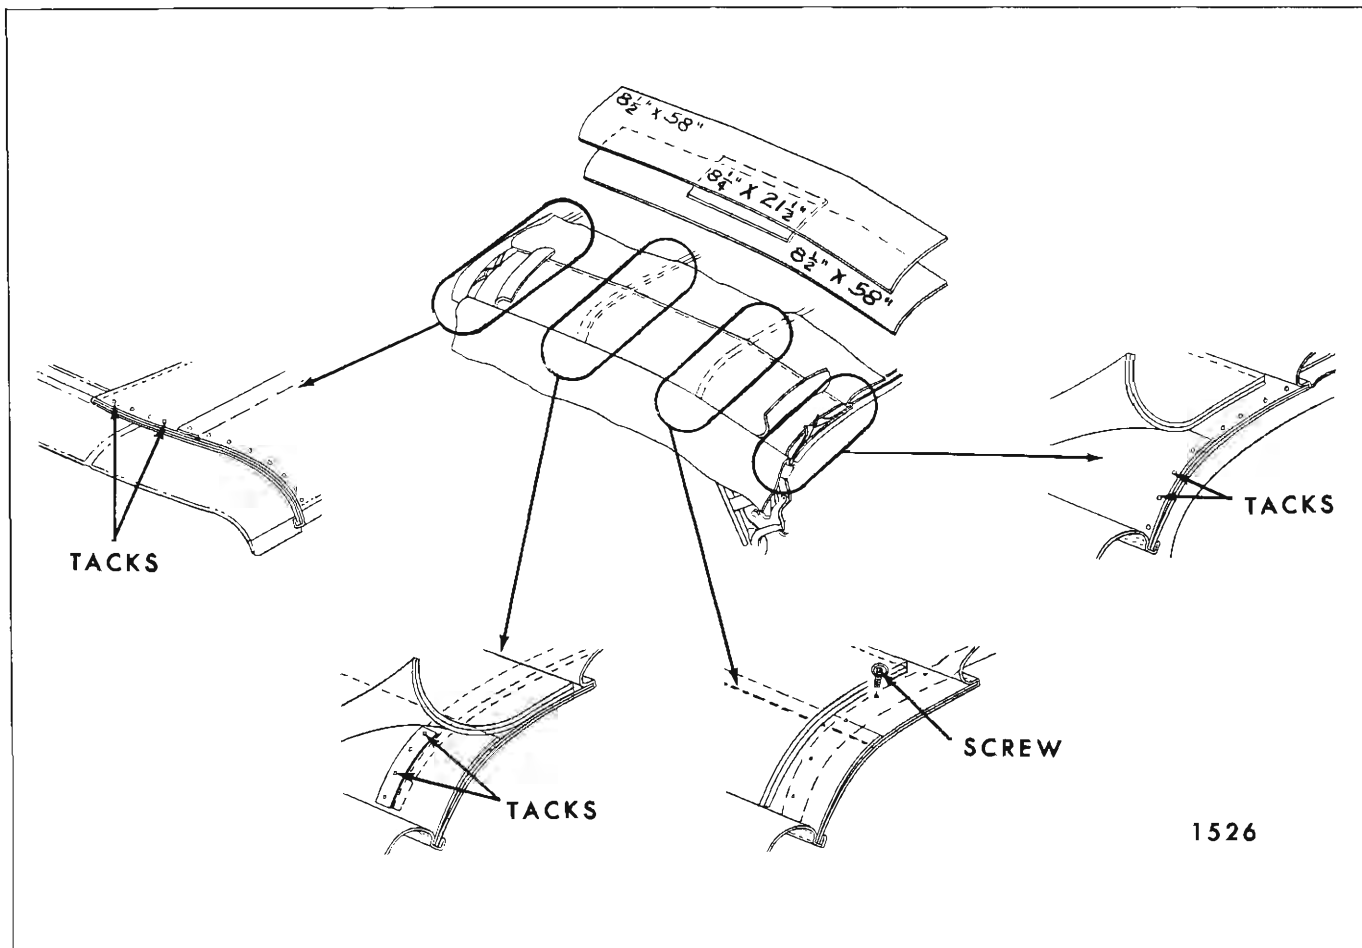

Fig. 1-I-13—Side Stay Pad Installation
**NOTE:** Notch in back curtain material at lower edge indicates centerline of back curtain assembly (Fig. 1I15). In addition, back curtain lower edge should extend approximately 1/2" below lower edge of trim sticks.
8. Tack curtain to rear and rear quarter trim sticks (Fig. 1I15). On right side, tack zipper tape to forward edge of rear quarter trim stick.